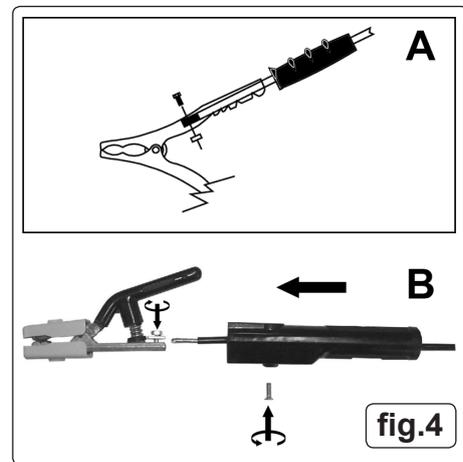

fig.4
- ☐ **WARNING: When unit is switched off the short-circuit light (fig 4. B) will come on for 10-15 seconds whilst capacitor discharges. DO NOT open unit until light goes out.**
- 5.1. Work Clamp** (See fig.4-A)
- 5.2. Electrode Holder** (See fig.4-B)